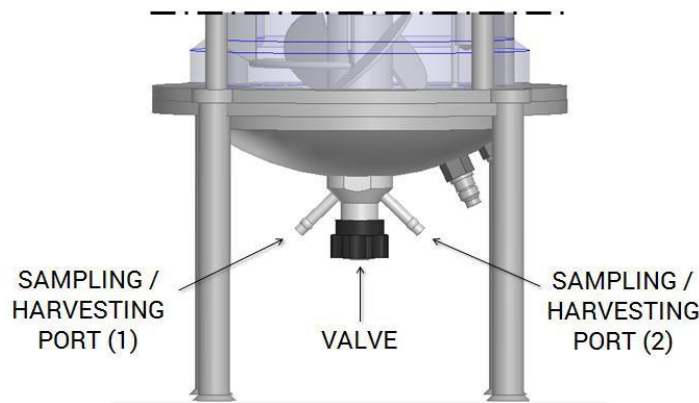

Figure 22.1. Sampling port
Both sampling and harvesting actions can be performed through the lower port of the vessel - port (1) and port (2). For sampling it is common to use one of these ports and to close the other one with a specified needle port plug. To start sampling or harvesting, open the tap by screwing it clockwise (see Figure 22.1)
- 1) Prior harvesting, a sterile bottle or vessel should be prepared. Harvest bottle (large enough to hold the entire culture that is in the bioreactor vessel), should be equipped with a harvesting tube and a sterile filter for air exchange. The harvesting tube has to be long enough to reach from the bottle (placed lower than the vessel) to the lower part of the bioreactor's vessel where the sampling/harvesting port is located (see Figure 22.1);
- 3) Open the bioreactor's tap (see Figure 22.1);